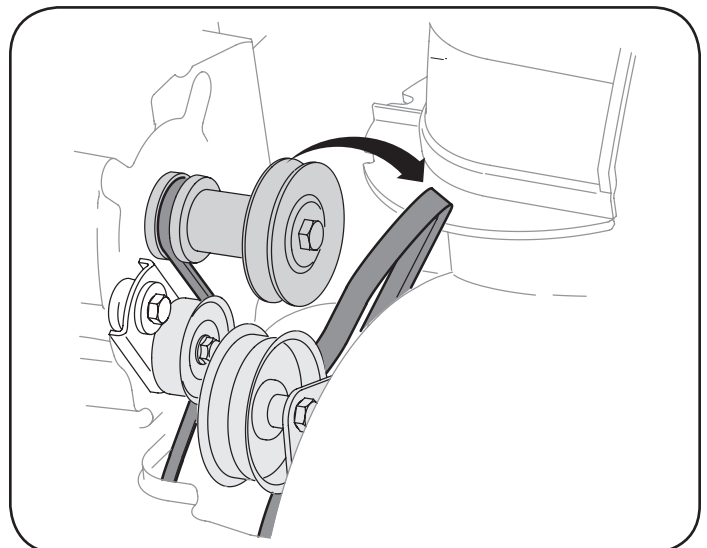

Figure 26
3. Roll the auger belt off the engine pulley. See Figure 26.
7. Remove the belt from around the auger pulley, and slip the belt between the support bracket and the auger pulley. See Figure 26.